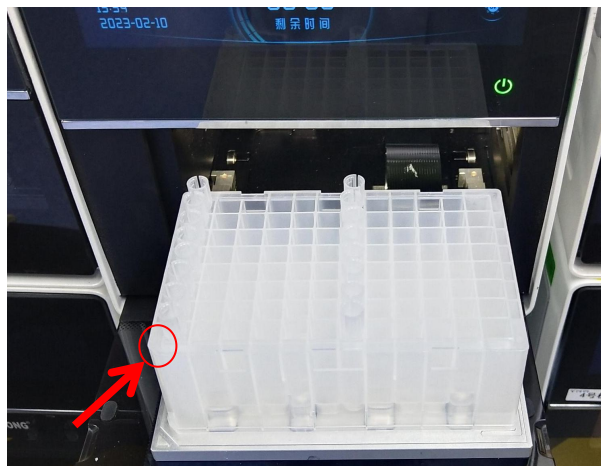

Figure 2. 96-deep well plate
**ⓘ Note:** The user should ensure the marked notch of the plate faces front, which is shown in Figure 2 .